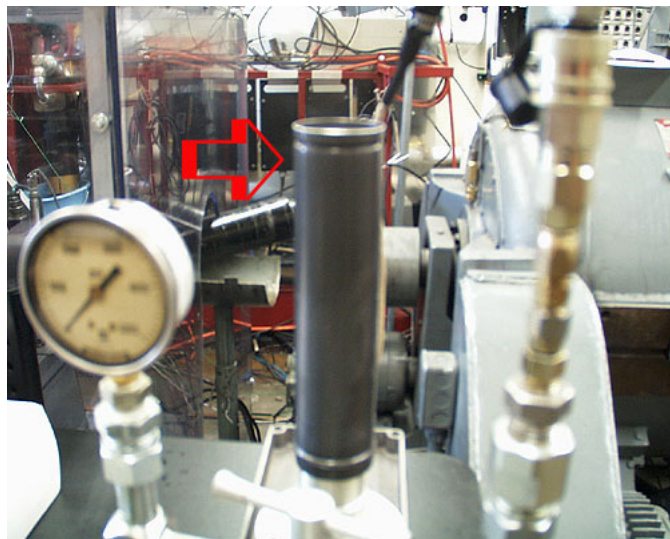

Figure 8
- 112 On the “Enter Next Calibration Point in Engineering Units (EU)” screen next to the “Next Point (EU)” header, enter the upper psi value (200, 500, 1000 or 5000 psi) for the range being calibrated.
- 113 Go into the test cell and place the tube over the tube carrier of Pressure Determination System. See the arrow in Figure 8.